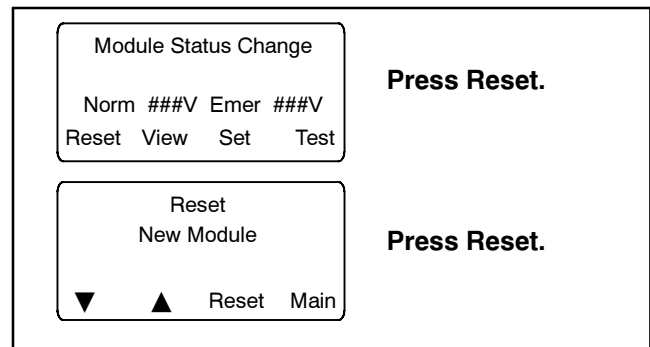

Figure 2-12 Screens after Module Connection
1. If the ATS display shows the “Module Status Change,” press the Reset button. See Figure 2-12.
8. Close the enclosure door and reconnect power to the ATS. The display will show “Module Status Change.” See Figure 2-12.